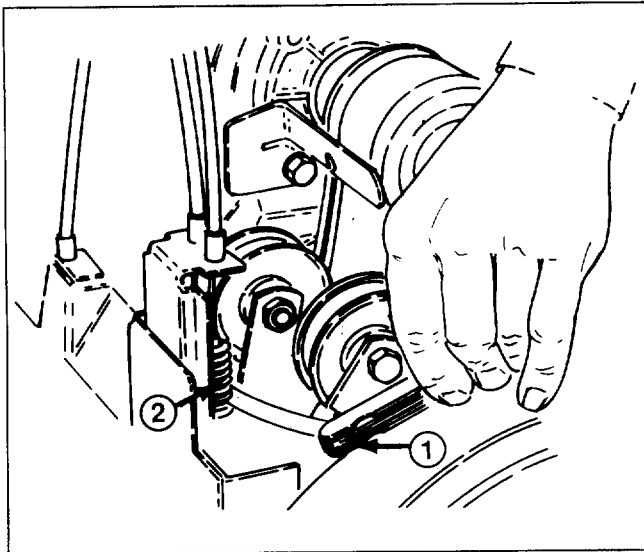

Figure 28
3. CHECKING IMPELLER CABLE ADJUSTMENT—Depress the auger/impeller control lever on the right hand grip. Hold the lever and insert a .010" (.25 mm) feeler gauge between a coil in the center of the spring (Fig. 28). Adjust the cable to achieve .010" (.25 mm) gap between the coils.